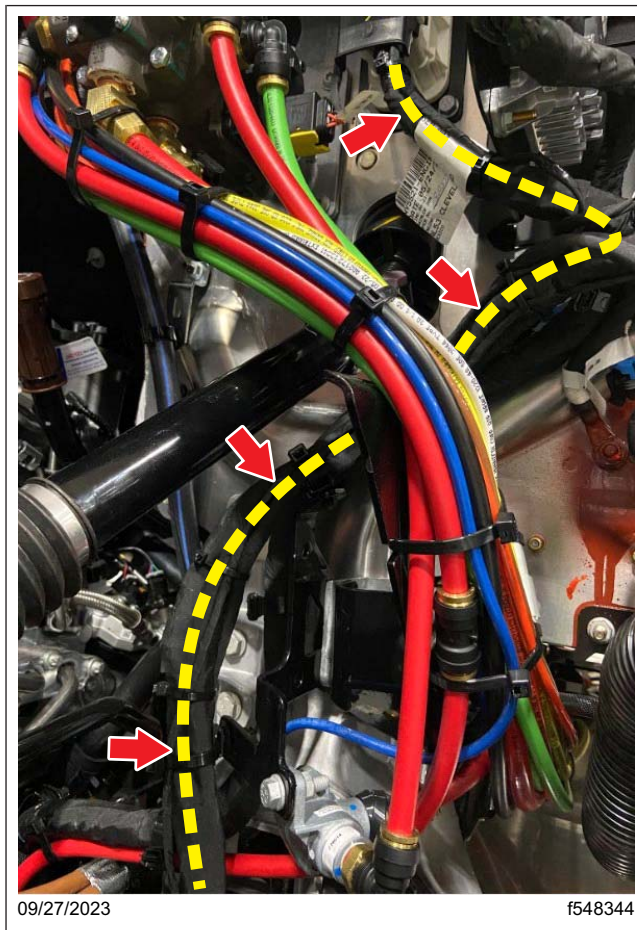
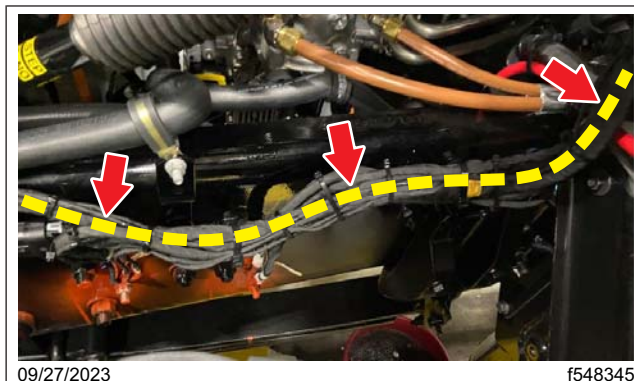
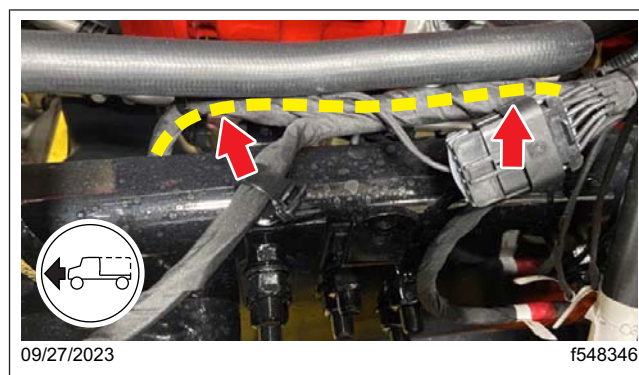

Fig. 76, Harness Path from the Firewall Towards the Left-Hand Frame Rail
Fig. 77, Harness Path Along the Left-Hand Frame Rail
Fig. 78, Harness Path Over the top of the Left-Hand Frame Rail Down in Between the Frame Rail and Radiator
- 19.4 Route the harness (TSU CT44FRT034) towards the front of the vehicle to the existing plow light connector(s) along the existing harness in the path shown in the Fig. 76, Fig. 77, Fig. 78, Fig. 79, and Fig. 80. Secure the harness with zip ties as needed.